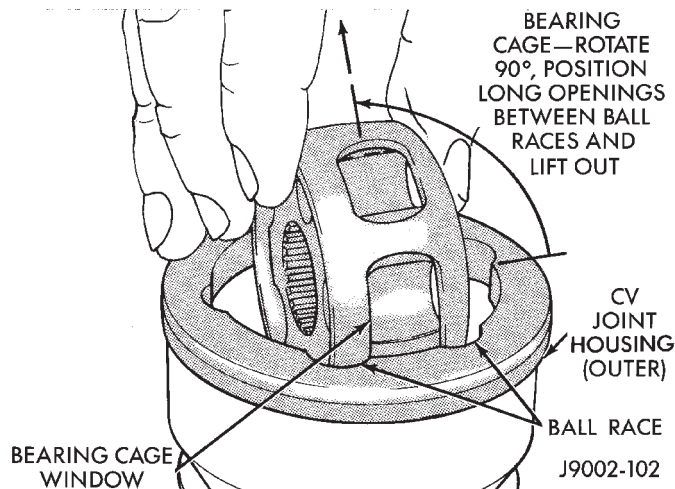

Fig. 13 Bearing Cage & Hub Removal
(8) Repeat the step above until all **six** balls are removed from the bearing cage.
(9) Tilt the bearing cage and hub to a vertical position to remove (Fig. 13).